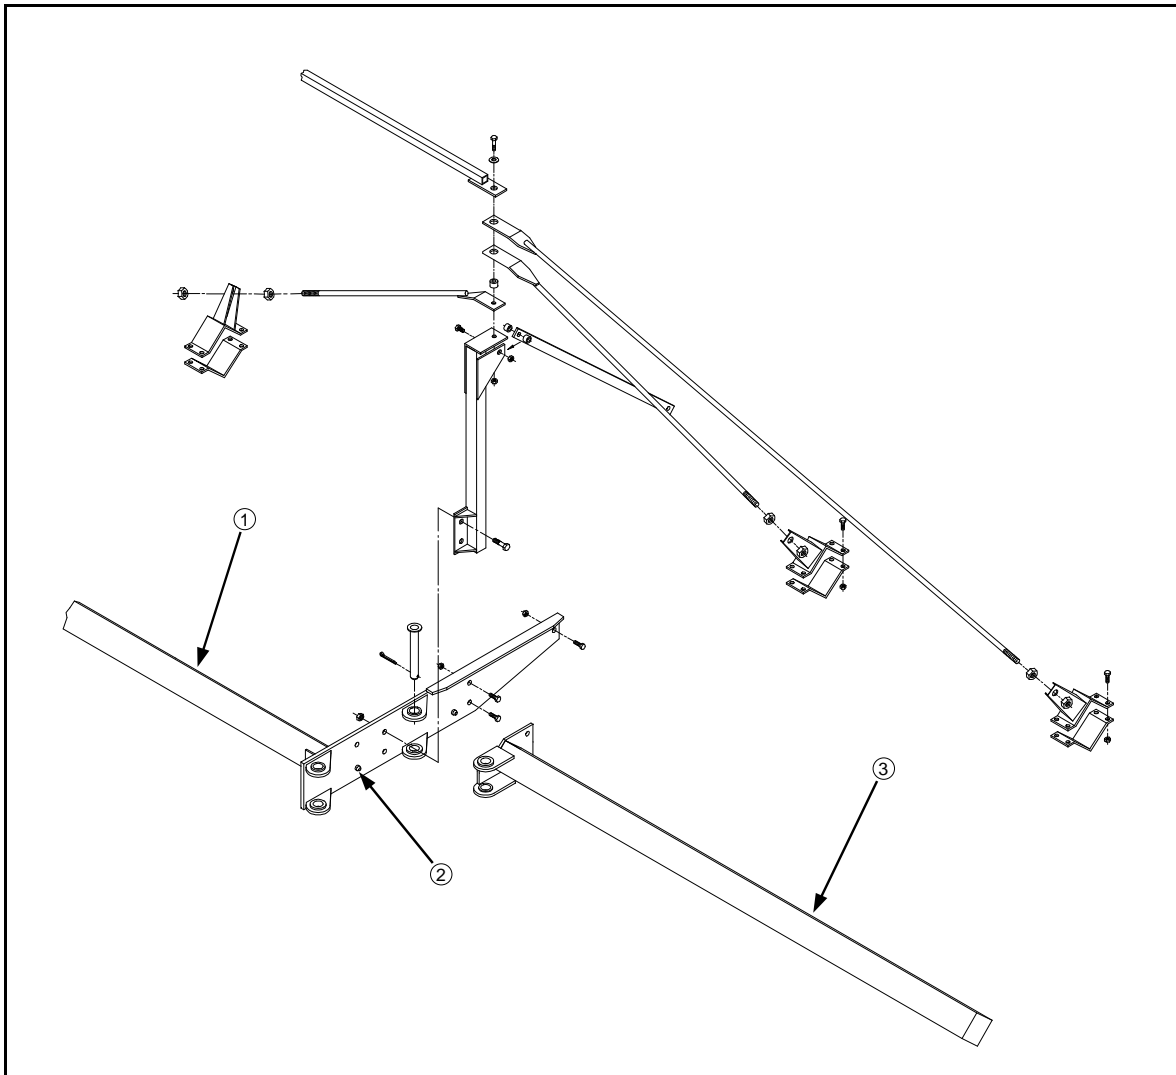

FIG 4.8
1. Attach the center tool bar (fig. 4.8, item 1) to front frame cross member with supplied hardware according to 204 SP DETASSELER Parts Manual for correct hardware.
The guide pin that is welded to outrigger mount should be located toward the bottom (fig. 4.8, item 2).
2. Attach left and right outrigger (fig. 4.8, item 3) with supplied hardware. Refer to 204 SP DETASSELER Parts Manual.